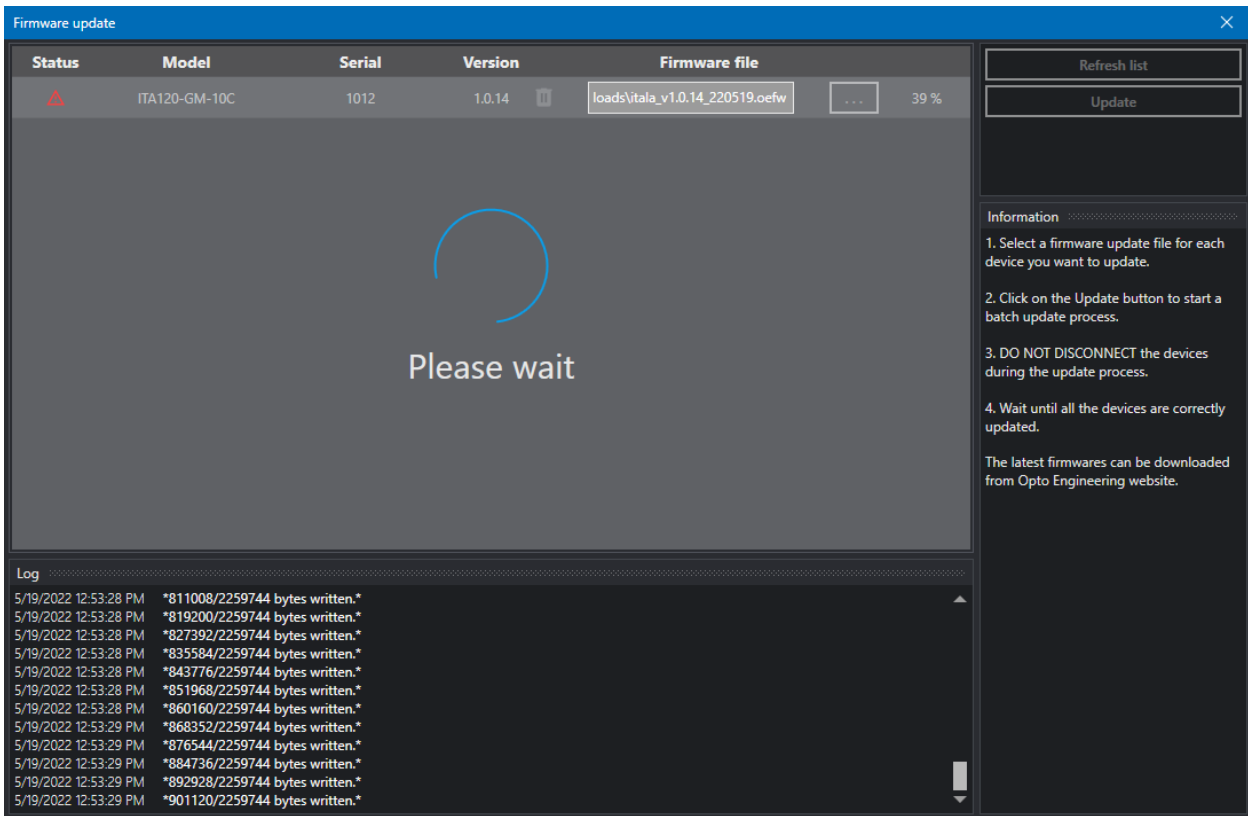

Figure 17: FW update in progress.
3. **Do not disconnect or power down** the devices during the update process (Fig.17). The LED blink signals that the camera is writing to the flash memory.